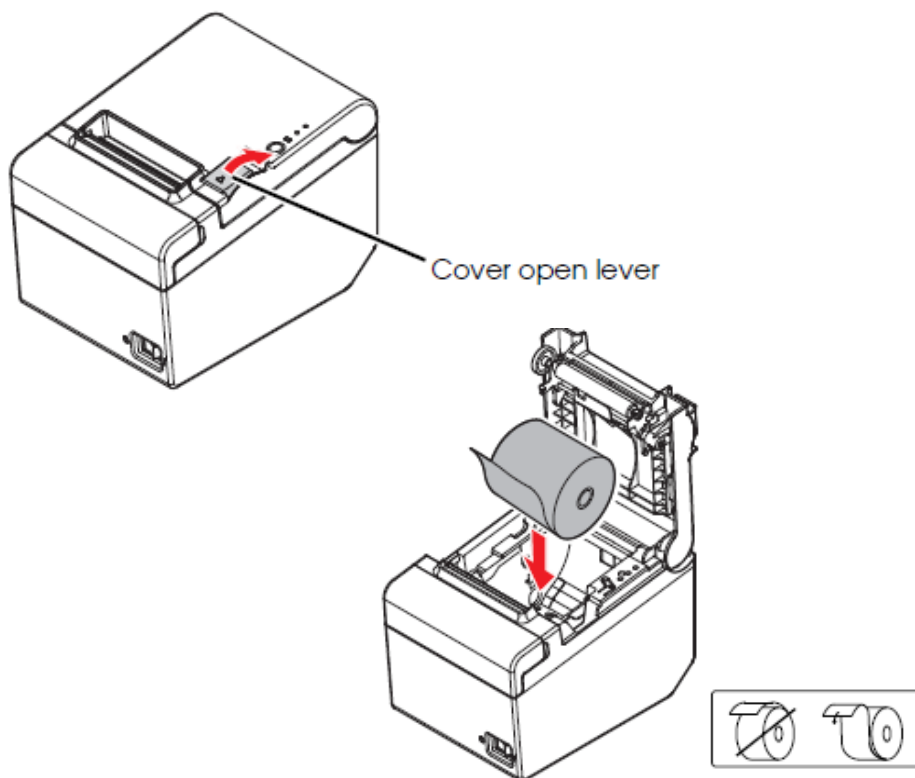

Figure 5: Opening the cover and installing the roll paper
1. Use the cover open lever to open the roll paper cover. Insert the roll paper facing in the right direction (see Figure 5).